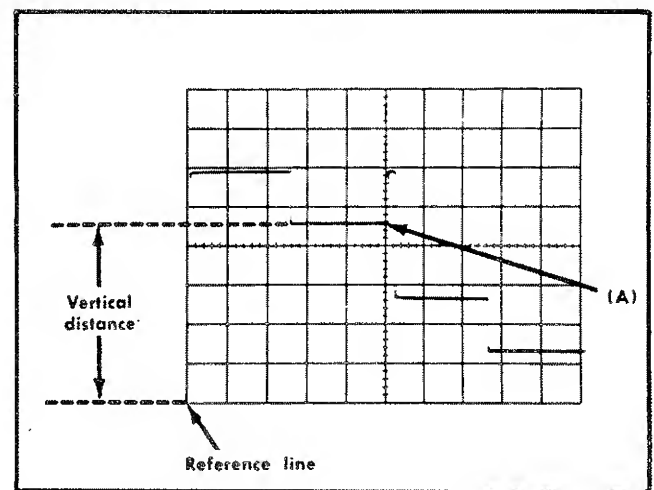

Fig. 1-7. Measuring instantaneous dc voltage with respect to a reference voltage.
4. Measure the distance in divisions between the reference line and the point on the waveform at which the dc level is to be measured. For example, in Fig. 1-7 the measurement is made between the reference line and point A.